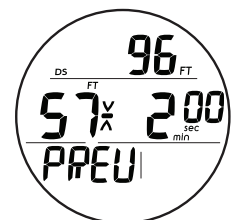

Fig. 96 - DS PREVIEW
**Deep Stop Preview**, information includes (Fig. 96):